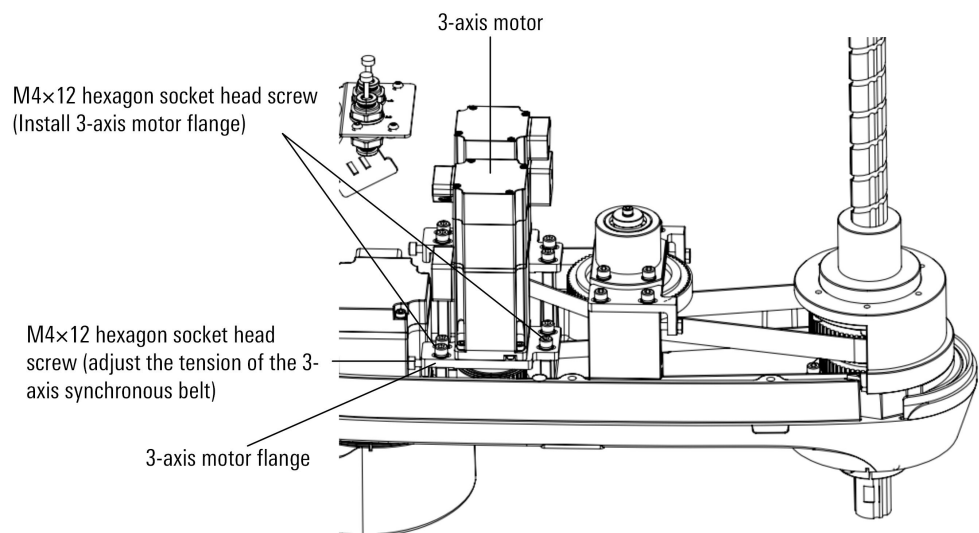

Figure 8- 7 Schematic diagram of disassembling 3-axis motor flange
- Step4. Use an Allen wrench to remove the four M4×12 inner hexagon socket head screws for installing the 4-axis motor flange, and then slowly loosen the a M4×12 inner hexagon socket head screw that adjusts the tension of the 4-axis first-stage timing belt. Take off the flanges of the 4-axis motor and 4-axis motor together, as shown in Figure 8- 8.